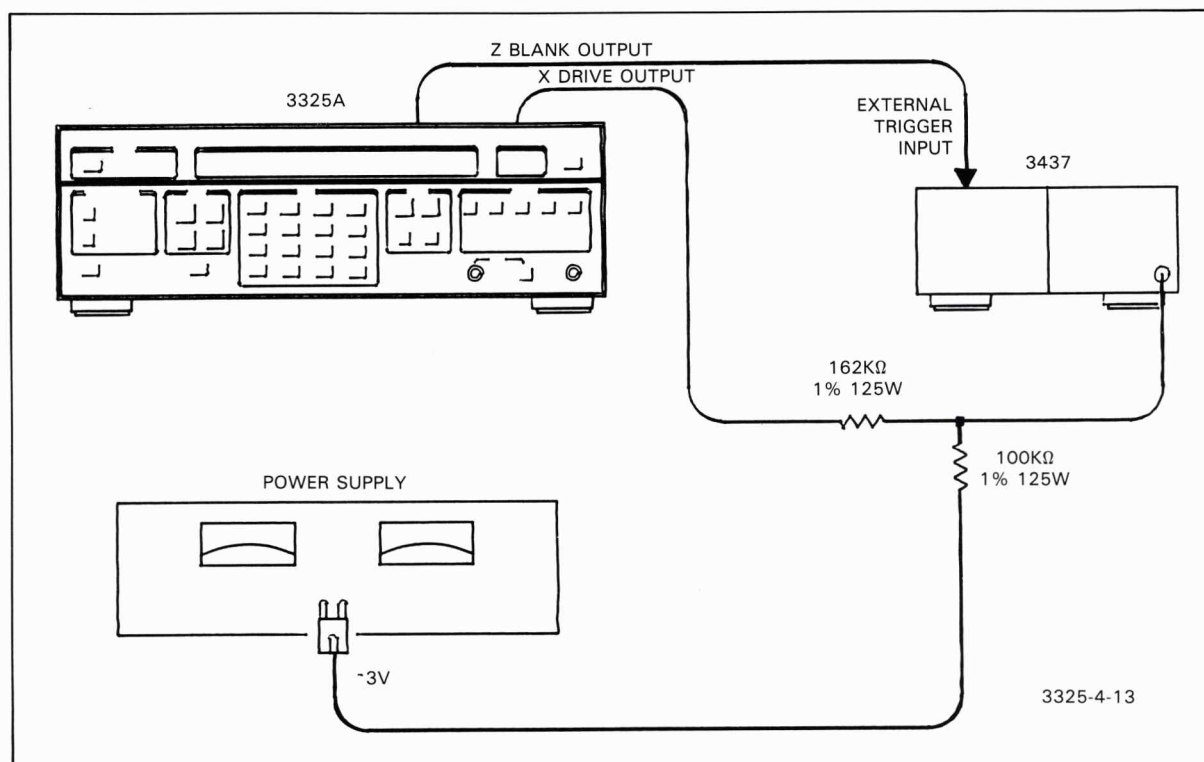

Figure 4-12. X Drive Linearity Test.
a. Connect the equipment as shown in Figure 4-12.